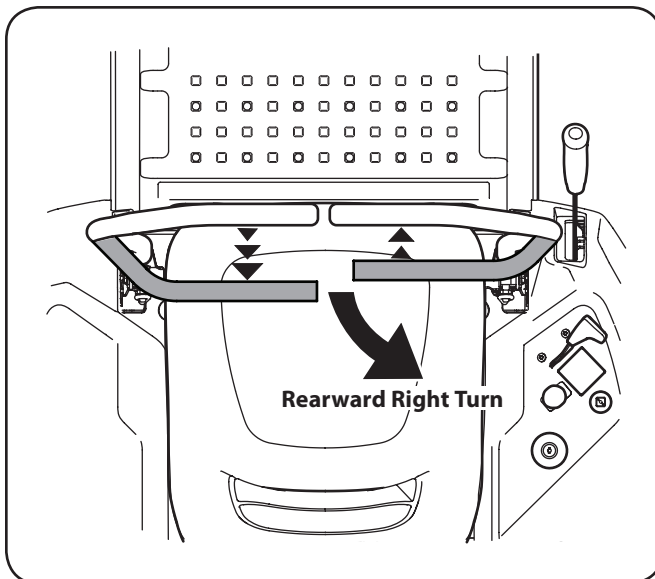

Figure 5-8
2. To turn to the right while traveling in reverse, move the right drive control lever forward of the left lever. See Fig. 5-8.